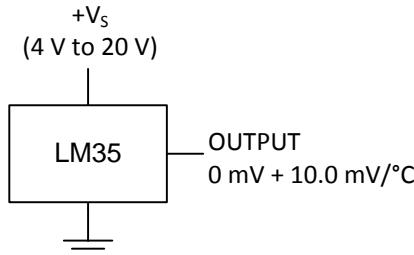

Figure 14. Basic Centigrade Temperature Sensor (2 °C to 150 °C)
Unless otherwise noted, these specifications apply: $-55^\circ\text{C} \leq T_J \leq 150^\circ\text{C}$ for the LM35 and LM35A; $-40^\circ\text{C} \leq T_J \leq 110^\circ\text{C}$ for the LM35C and LM35CA; and $0^\circ\text{C} \leq T_J \leq 100^\circ\text{C}$ for the LM35D. $V_S = 5\text{ Vdc}$ and $I_{LOAD} = 50\text{ }\mu\text{A}$, in the circuit of Full-Range Centigrade Temperature Sensor. These specifications also apply from 2°C to T_{MAX} in the circuit of Figure 14.
Unless otherwise noted, these specifications apply: $-55^\circ\text{C} \leq T_J \leq 150^\circ\text{C}$ for the LM35 and LM35A; $-40^\circ\text{C} \leq T_J \leq 110^\circ\text{C}$ for the LM35C and LM35CA; and $0^\circ\text{C} \leq T_J \leq 100^\circ\text{C}$ for the LM35D. $V_S = 5 \text{ Vdc}$ and $I_{LOAD} = 50 \mu\text{A}$, in the circuit of Full-Range Centigrade Temperature Sensor. These specifications also apply from 2°C to T_{MAX} in the circuit of Figure 14.
(6) Quiescent current is defined in the circuit of Figure 14.